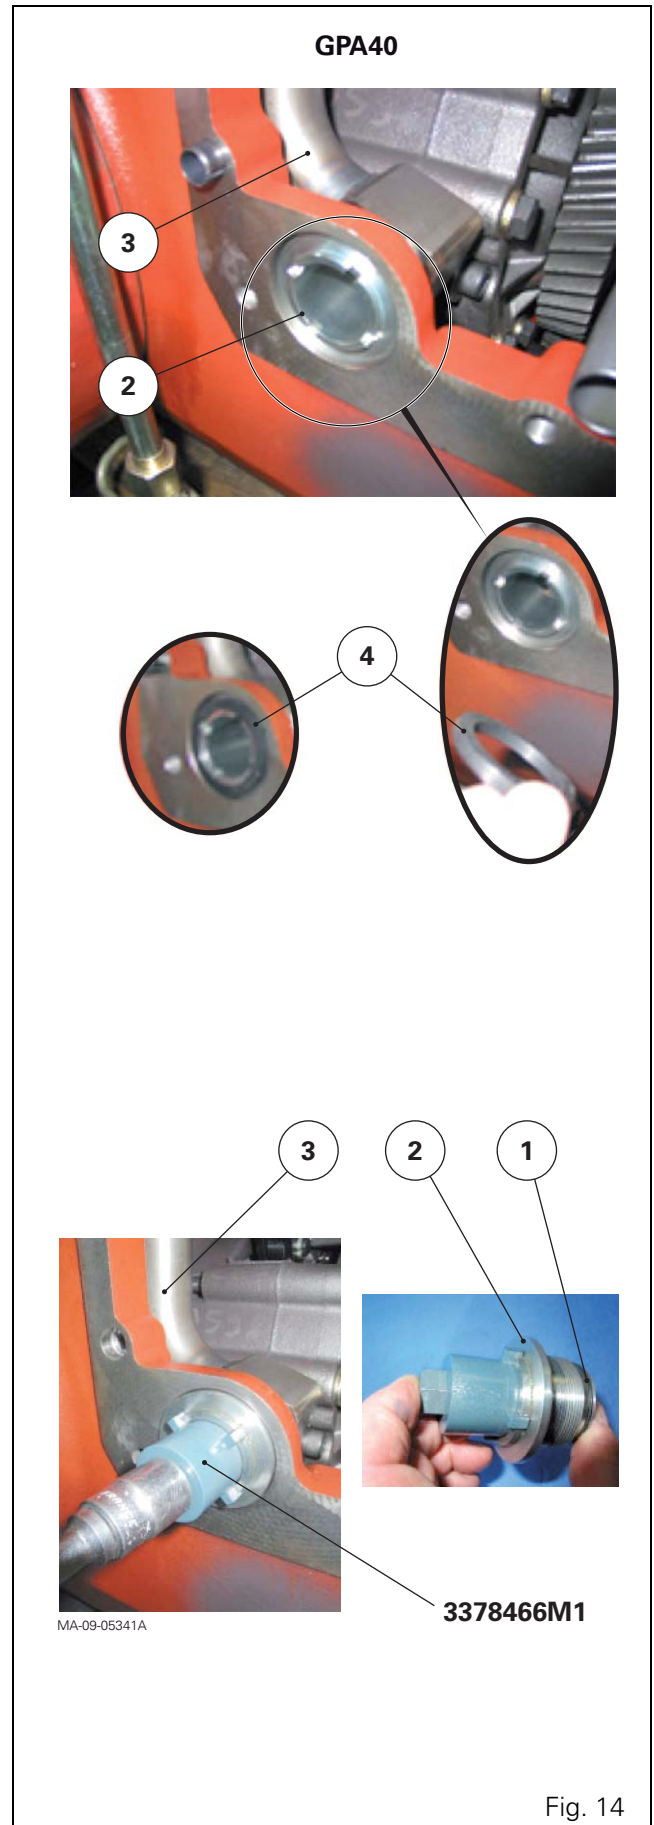

Fig. 14
9. Unscrew the screws (1). Release and remove the hydraulic cover plate.
10. Remove the seal (4). Discard this seal (Fig. 14).
- Compress the spring (3) using a screwdriver.
- Remove the circlip (1).
- Remove the components (2) to (4).
12. If necessary (Fig. 14), unscrew the castellated collar (2) (GPA40) using pin wrench 3378466M1 (see § I).
13. If necessary (Fig. 14), discard and replace the "O" ring (1).
- on the castellated collar (2) screwed onto the pipe (3) (Fig. 14) (GPA40).